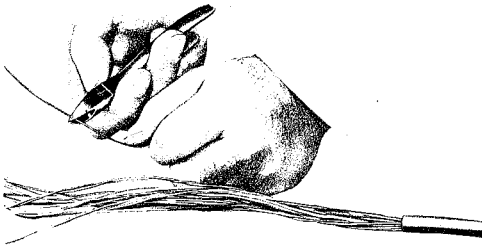

Fig. 8 — Skinning Conductors of Inside Wiring Cable
(3) Release pliers and grasp both conductors with hand. Continue pulling until the desired length of conductors are exposed.
(4) Cut off end portion at point of initial cut in Step 1.
(5) Remove insulation on conductors as shown in Fig. 8.